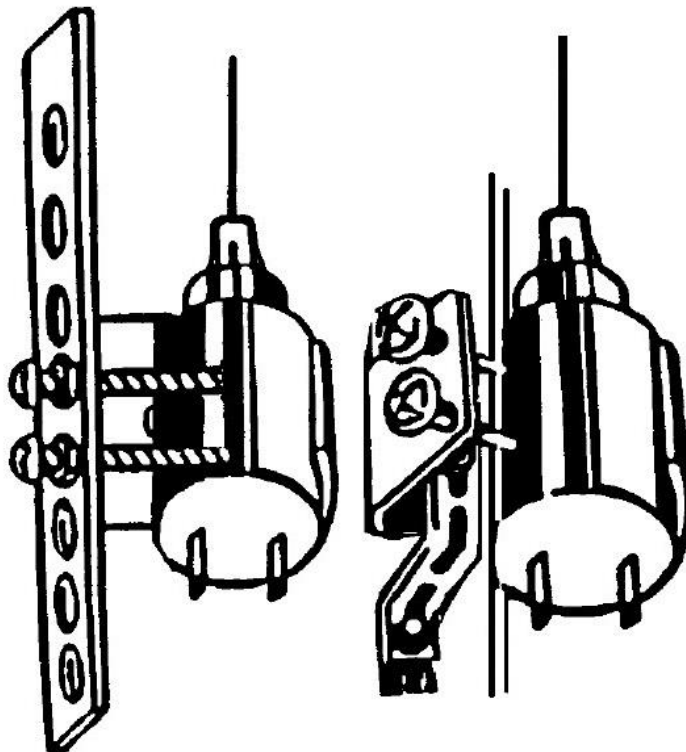

Figure 1 – Solenoid Installation
3. Select a proper location inside of door to mount solenoid that is in-line and directly underneath or above latch mechanism (the release direction) as required. Mark and center-punch hole locations for mounting bracket. Drill two (2) 3/16" holes and deburr using a file.
4. Install mounting bracket using two (2) supplied #12 sheet metal screws. Use auxiliary bracket to mount solenoid bracket too if necessary (two (2) 3/16" x 3/8" screws are supplied to secure solenoid bracket to auxiliary bracket). Be sure there is no interference with internal door components or window movement. Slide solenoid into bracket and tighten the top two (2) bracket screws. Be sure solenoid is secured, cable is in-line, and reaches the hook assembly connected to latch mechanism. See **Figure 1**.